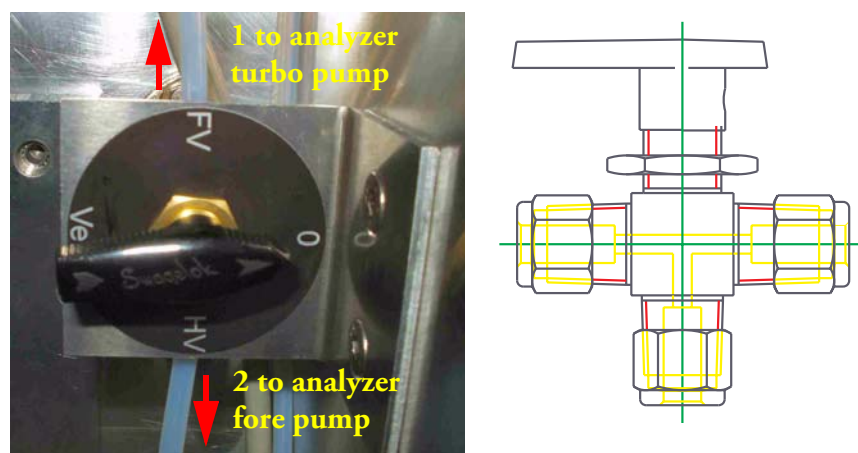

Figure 7-32. Switching Positions and Layout of Three-Way Valve
The three-way valve, (Figure 7-32; see also “Three-Way Valve” on page 2-34) allows to evacuate the amplifier area to the mbar range. Evacuation provides thermal insulation and leads to a stable signal due to elimination of cosmic radiation.
*Refer to Figure 7-32.
At its bottom, the three-way valve contains a punched sheet plate (diameter of hole: 0.15 mm). An O-ring seal is positioned on the sheet plate. The white Teflon tube leading to analyzer fore pump is arranged upon the O-ring seal. The Teflon tube is equipped with a supporting sheath on its inside. On the outside, the usual Swagelok-cone is arranged. See Figure 7-32.